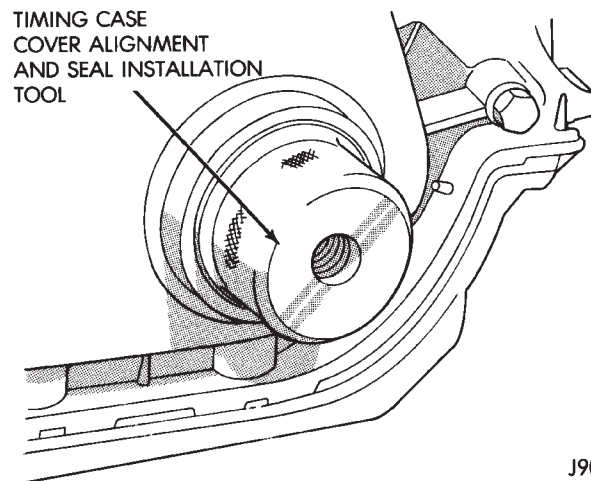

Fig. 5 Timing Case Cover Alignment and Seal Installation Tool 6139
(1) Install a new crankshaft oil seal in the timing case cover. The open end of the seal should be toward the inside of the cover. Support the cover at the seal area while installing the seal. Force it into position with Seal Installation Tool 6139.
(2) Position the gasket on the cylinder block.
(3) Position the timing case cover on the oil pan gasket and the cylinder block. Make sure the tension spring and thrust pin are in place in the camshaft preload bolt.
(4) Insert Timing Case Cover Alignment and Seal Installation Tool 6139 in the crankshaft opening in the cover (Fig. 5).
(5) Install the timing case cover-to-cylinder block and the oil pan-to-timing case cover bolts.
(6) Tighten the 1/4 inch cover-to-block bolts to 7 N·m (60 in. lbs.) torque. Tighten the 5/16 inch front cover-to-block bolts to 22 N·m (192 in. lbs.) torque. Tighten the oil pan-to-cover 1/4 inch bolts to 14 N·m (120 in. lbs.) torque. Tighten the oil pan-to-cover 5/16 inch bolts to 18 N·m (156 in. lbs.) torque.
(7) Remove the cover alignment tool.